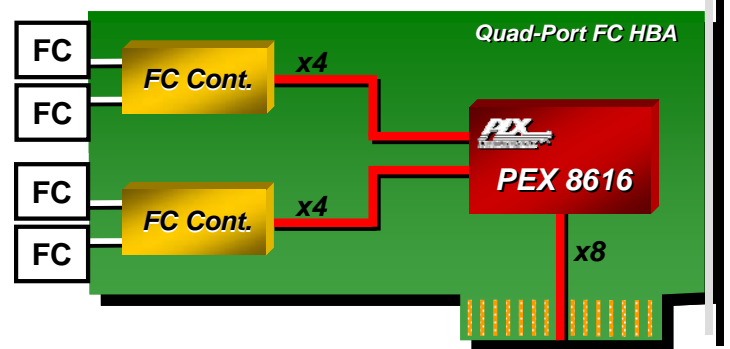

Figure 5. Quad-Port Fibre-Channel HBA
The PEX 8616 is well suited for Host Bus Adapter cards (HBAs) as well. Figure 5 shows a Quad-Port Fibre Channel HBAs utilizing the PEX 8616 to allow connectivity to two Fibre Channel (FC) controllers. The PEX 8616 uses a x8 link on the upstream port and two x4 downstream links to fan-out to the FC Controllers. Each FC controller supports two FC ports.